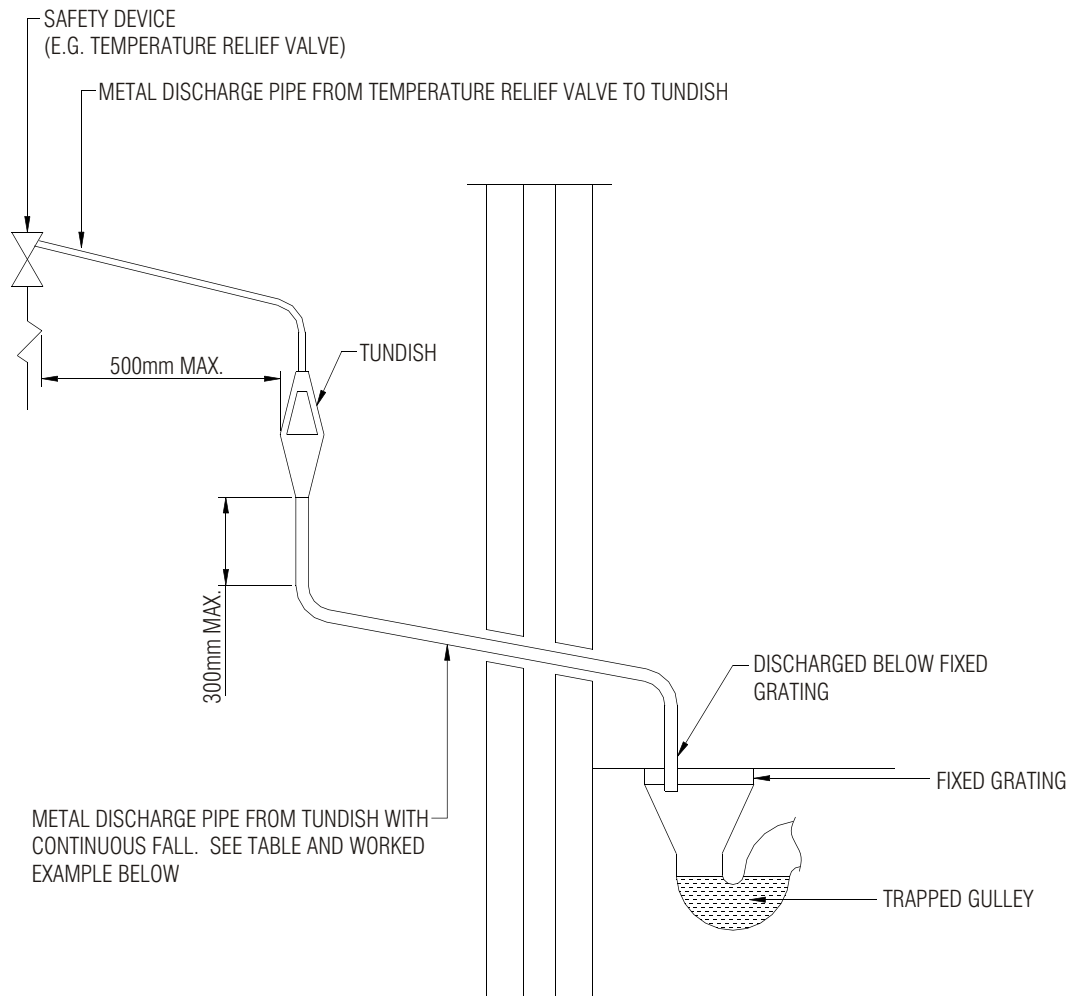

Fig 6
- (a) Be at least one pipe size larger than the normal outlet size of the safety device unless its total equipment hydraulic resistance exceeds that of a straight pipe 9 m long, i.e. discharge pipes between 9 m and 18 m equivalent resistance length should be at least two sizes larger than the normal outlet size of the safety device, between 18 m and 27 m at least three sizes larger and so on. Bends must be taken into account in calculating the flow resistance. Refer to the diagram, tables and worked example detailed in Fig6.